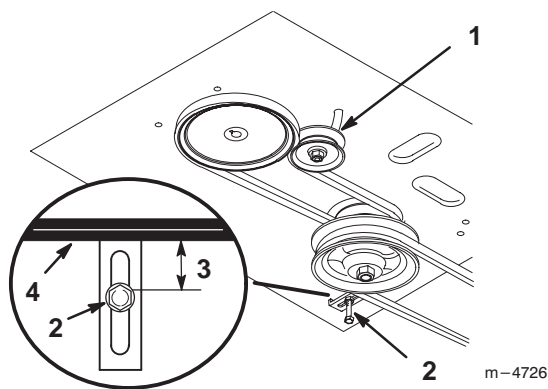

Figure 45
5. Install new belt around engine and drive pulleys (Fig. 45).
6. Slide idler pulley in engine frame to tension traction belt (Fig. 45).
8. Check the belt guide under the engine frame for proper adjustment (Fig. 45). The distance between the belt guide and mower belt should be 1-1/4" (32mm) when mower belt is engaged. Adjust as necessary. The disengaged belt should not drag or fall off pulley when guides are properly adjusted.
10. Check the belt guide under the engine frame for proper adjustment (Fig. 45). The distance between the belt guide and mower belt should be 1-1/4" (32mm) when mower belt is engaged. Adjust as necessary. The disengaged belt should not drag or fall off pulley when guides are properly adjusted.